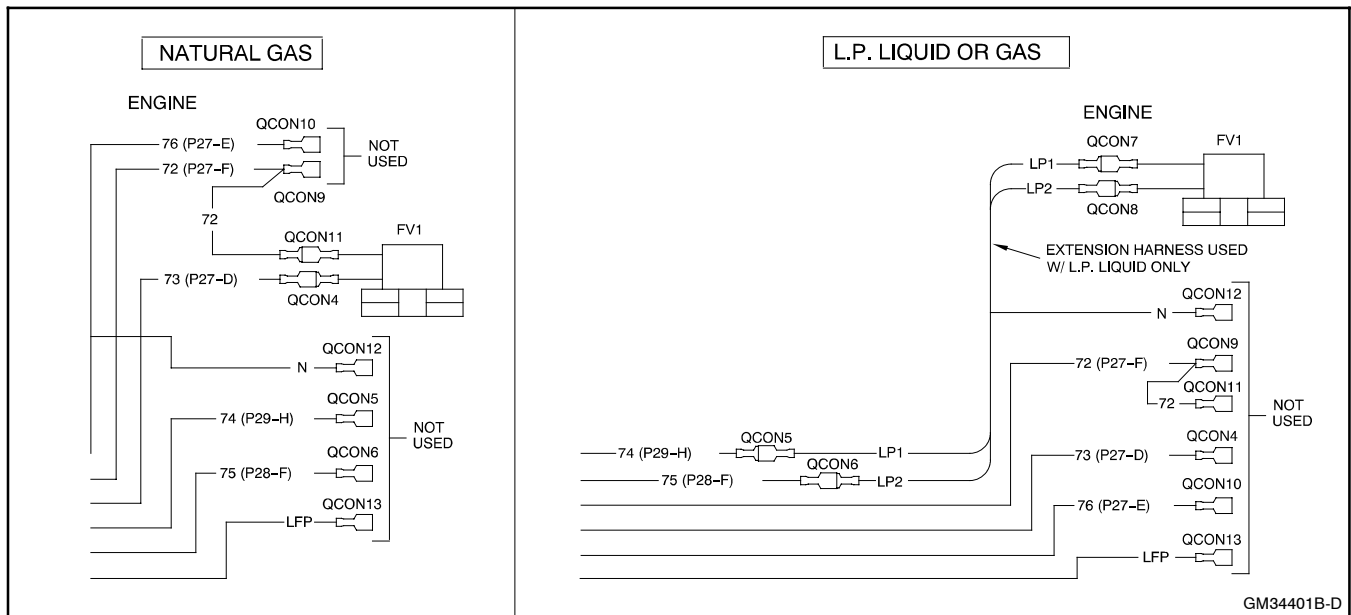

Figure 10 Solenoid Shutoff Valve Wiring
5.2 Disconnect wires 72 and 73 from the solenoid shutoff valve (FV1). Tape to insulate the terminals. See Figure 10, Natural Gas view.
5.3 Connect wires 74 and 75 to the solenoid shutoff valve (FV1). See Figure 10, LP Gas view.